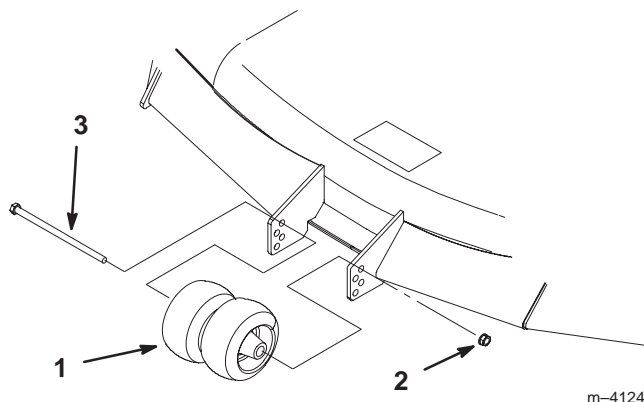

Figure 25
2. After adjusting height-of-cut, remove bolt and nut (Fig. 25).
3. Select hole so gage wheel is positioned to the nearest corresponding height-of-cut desired (Fig. 25).
4. Reinstall the bolt, center rollers and nut (Fig. 25).